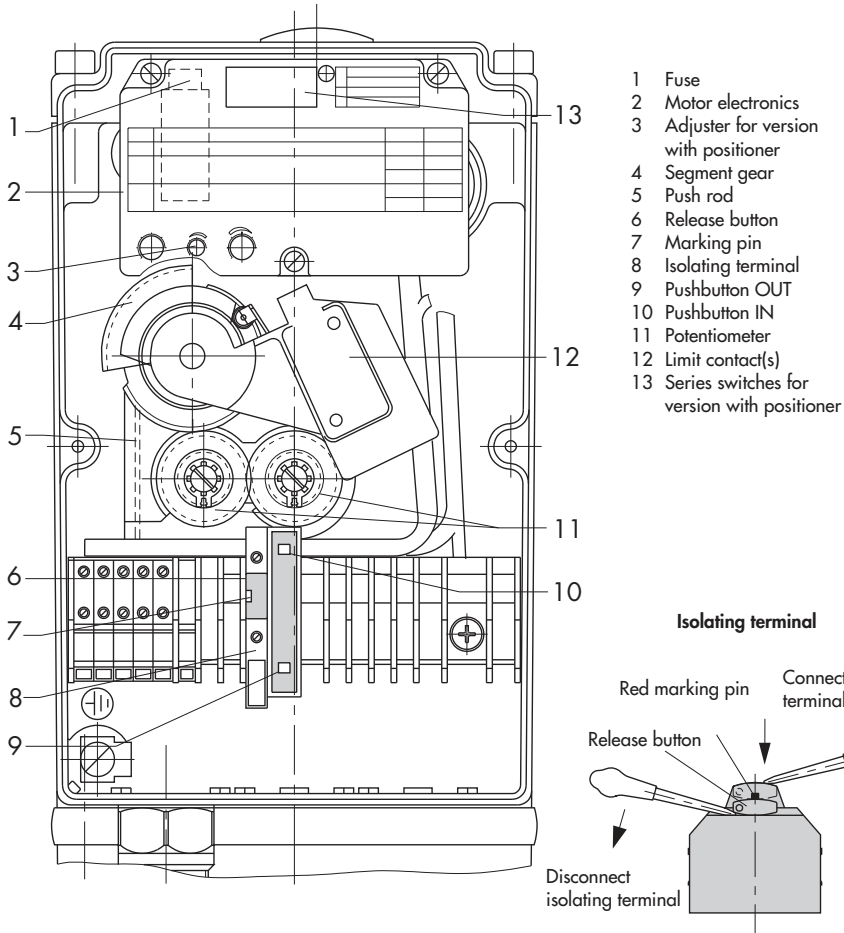

Fig. 8 · Terminal box with adjuster controls
If, e.g. upon start-up of the plant, the control signal is to be interrupted and the control valve is to remain in a certain position, the isolating terminal 81 must be disconnected (Fig. 8).
1. Open isolating terminal 81 by pulling up the release button (Fig. 8).